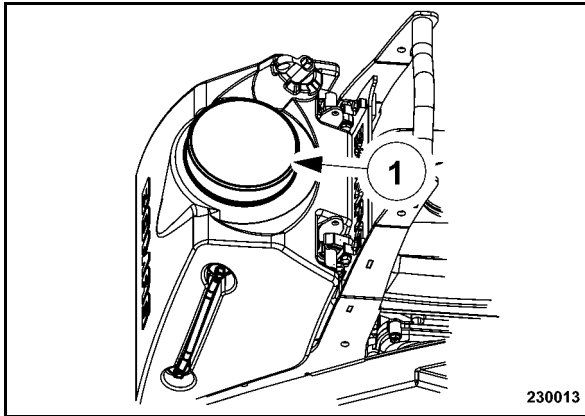

Fig. 31
- Open the water tank (Fig. 31) and fill in clean water.